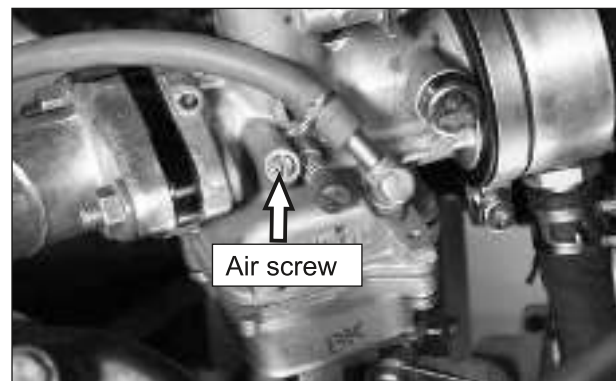

Fig. 2.45
- Close the air screw in carburetor and open it by 1.25 turns out. (Fig. 2.45)